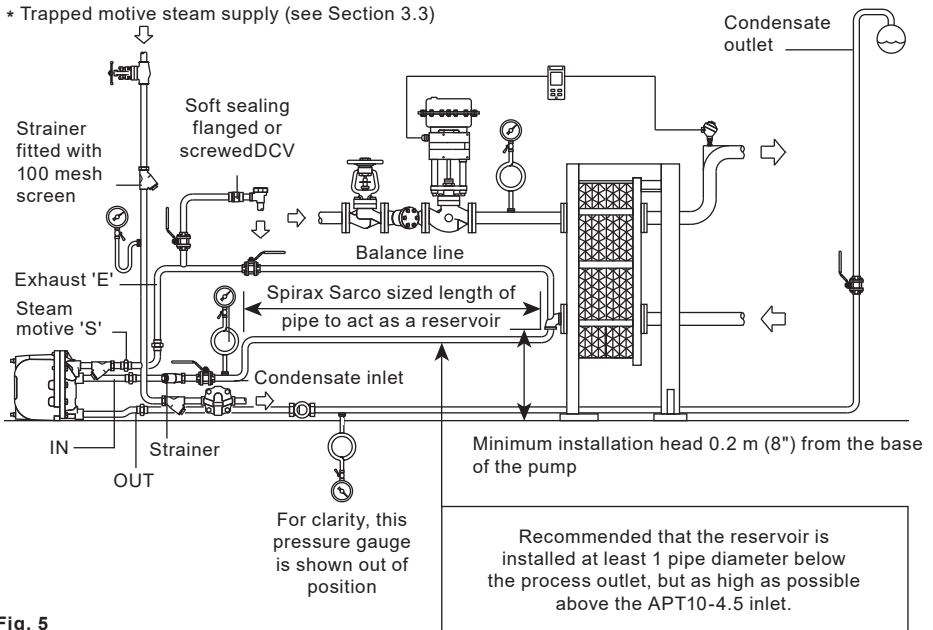

Fig. 5
To prevent condensate backing up into the equipment being drained, it is recommended that the inlet pipework is sufficiently sized to accumulate condensate during the pump's discharge cycle. Generally a length and diameter of pipe to accommodate 2.1 litres of condensate will be sufficient. It is recommended this condensate reservoir is situated at least 1 pipe diameter below the process outlet but as high as possible above the APT10-4.5 inlet. It is essential that a Spirax Sarco Y-type strainer with a maximum 0.8 mm perforation screen size is fitted at the condensate inlet of the APT10-4.5, as shown in Fig. 5.
The APT10-4.5 has four connection ports. The DN20 (¾") port marked (IN) should be connected to the outlet of the equipment being drained. The DN20 (¾") port marked (OUT) should be connected to the condensate return line. A flow arrow indicates the correct direction of flow. The DN15 (½") port marked (S) - steam should be connected to a trapped motive steam supply. *** It is important to ensure this line is drained of condensate at all times using a Spirax Sarco steam trap and filtered using the 100 mesh strainer supplied fitted to the pump trap, (see Fig. 5).** The screwed DN15 (½") port marked (E) - exhaust should be balanced back as close as possible to the condensate outlet of the equipment. This balance line must always be connected to the top of the condensate pipe; as shown in Fig. 5.